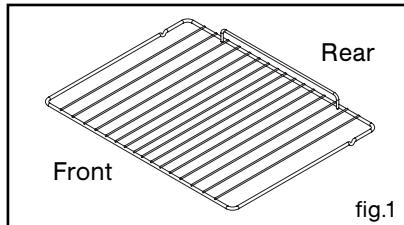

fig.1
• ***Anti-rocking safety grid (fig.1)***